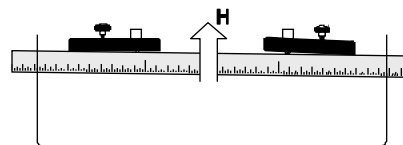
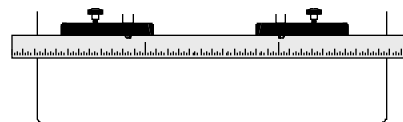
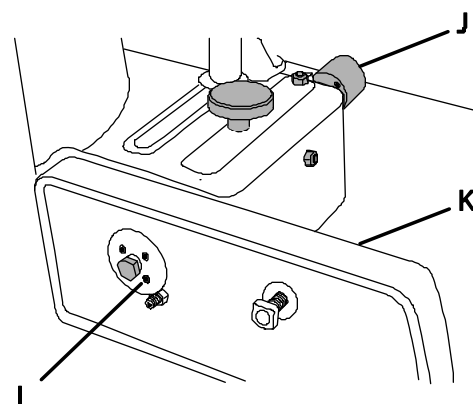

Figure 9
Figure 10
Figure 11
6. Remove both fences and place the straightedge against the infeed and outfeed fence castings (Figure 9).
8. Maintain steady pressure of the straightedge against the fence castings (H, Fig. 9). At the same time, attempt to bring both fences into alignment as shown in Figure 10. This is accomplished by alternately making incremental adjustments to four *setscrews* (L, Fig. 11) on the front face of the *casting* (K, Fig. 11) with a 2mm hex wrench, followed by repositioning the casting with the *micro adjust dial* (J, Fig. 11) as required.
Important: It is recommended that the adjustment setscrews (K, Fig. 11) be rotated in 1/16th increments or less at a time.
Alignment is complete when the skewed and reference fence castings are coplanar (in-line) as shown in Figure 10.